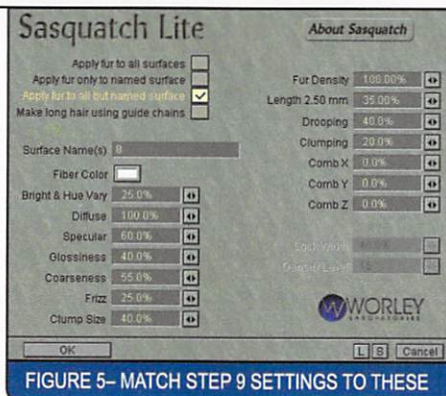

FIGURE 5- MATCH STEP 9 SETTINGS TO THESE
9. Double Click on the text "SasLite" and change values to match *FIGURE 5.* The Fiber Color should be changed to White (255, 255, 255), then "OK."